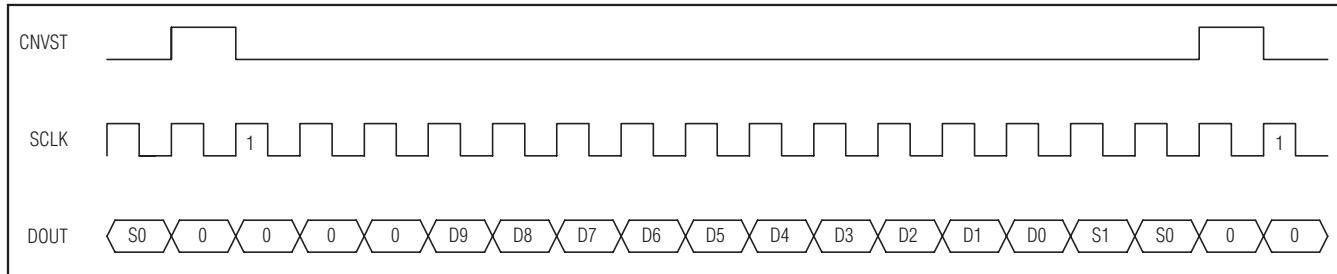

Figure 17. DSP Interface—Continuous Conversion
The MAX1076/MAX1078 can also be connected to the TMS320C54_ by using the data transmit (DX) pin to drive CNVST and the CLKX generated internally to drive SCLK. A pullup resistor is required on the CNVST signal to keep it high when DX goes high impedance and 0001hex should be written to the DXR continuously for continuous conversions. The power-down modes may be entered by writing 00FFhex to the DXR (see Figures 17 and 18).
sions, idle CNVST high and pulse it low for the entire conversion. The ADSP21_—_— STCTL and SRCTL registers should be configured for late framing (LAFR = 1) and for an active-low frame (LTFS = 1, LRFS = 1) signal. This is also the best way to enter the power-down modes by setting the word length to 8 bits (SLEN = 1001). Connect the V_L pin to the ADSP21_—_— supply voltage when the MAX1076/MAX1078 are operating with a supply voltage higher than the DSP supply voltage (see Figures 17 and 18).